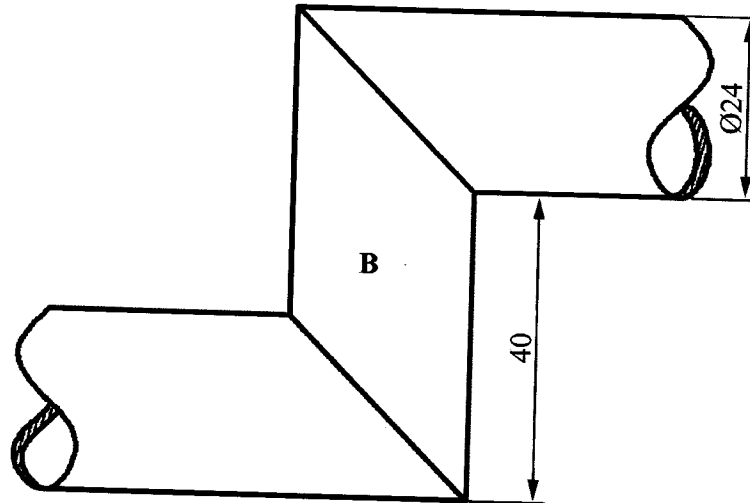

Figure 2
14. **Figure 2** shows a portion of three pipes diameter 24 mm joined at 45° at two positions. Draw the development of pipe **B**. (15 marks)